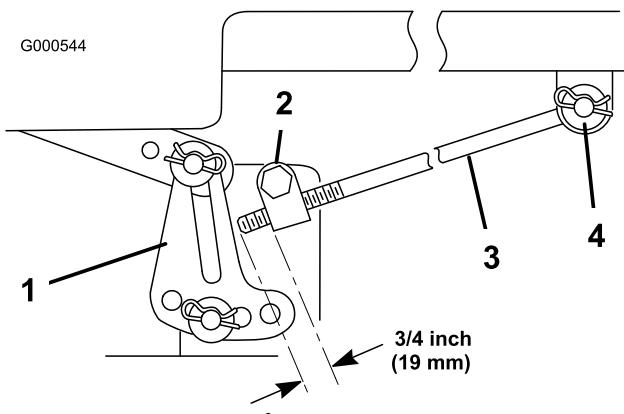

Figure 45
- Measure the length of the rod extending out of the adjusting block on the sides of the chassis (Figure 45).
- If the rod length is **not** a 3/4 inch (19 mm), remove the hairpin cotter and washer from the end of the adjusting rod (Figure 45) and turn the rod until the 3/4 inch (19 mm) dimension is obtained.